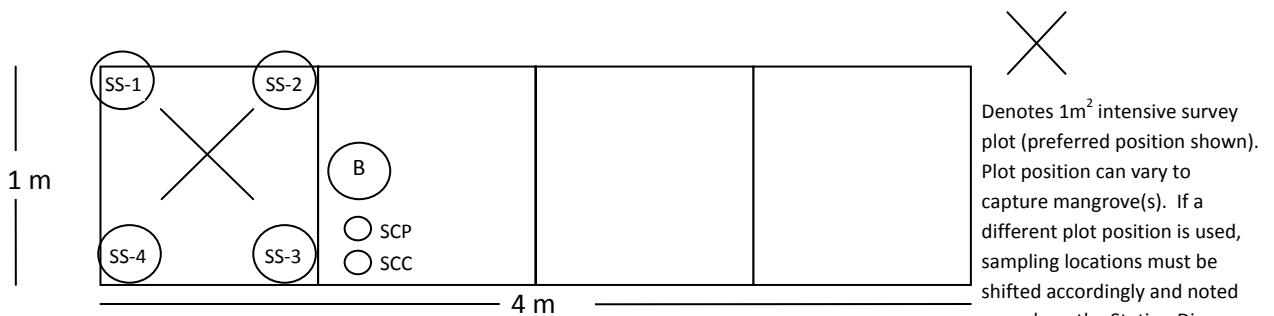

Figure 2
Sample Type: Each sample type is prelisted on the sample collection table and explained in the notes below the table. The sample types are also depicted on Figure 2 below, which illustrates a properly completed station diagram for a plot with a leftmost 1 m x 1 m intensive plot and no erosion. NO CLIP SAMPLES COLLECTED FOR MANGROVES.
- a. If the mangrove-intensive plot is in location 1, 2, or 3 based on Figure 2, looking inland, the coring location can be moved to the **RIGHT** of the 1 m x 1 m mangrove-intensive plot **up to 0.5 m along the inland edge** of the 1 m x 4 m plot (see Figure 3). If there is still not sufficient non-eroded marsh for BGB coring, the location can be moved further to the **RIGHT** of the mangrove-intensive plot along the inland edge **up to a maximum distance of 1 m from the mangrove-intensive plot**. If the inland edge along the 1 m distance shows evidence of previous coring or heavy foot traffic such that a BGB core should not be taken, the sampling location can be moved to the inside of the 1 m x 4 m plot following the same lateral movement guidance of not exceeding the 1 m maximum distance from the intensive plot. Ensure that the sampling locations are clearly marked and labeled on the Station Diagram on the Mangrove Sample Collection Datasheet.
Figure 2: The four positions of the 1 m x 1 m mangrove-intensive plot. On the Station Diagram on the Mangrove Sample Collection Datasheet, place an 'X' in the position of the mangrove-intensive plot for that zone.